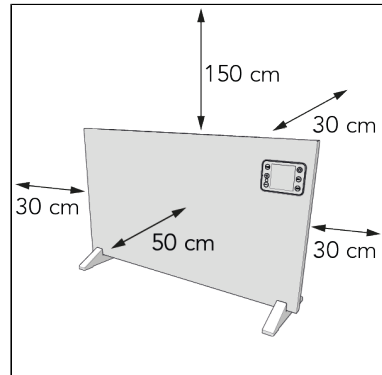

Figure 25.
5. Place the device with a minimum clearance distance (Figure 25) of: